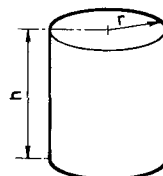

Fig. 1.46
**Volume of a cylinder.** A cylinder (Fig. 1.46) has the same section throughout its length. Hence,